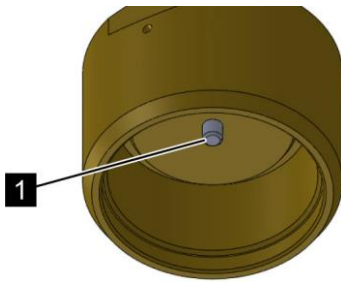

Fig. 161: Release pin
8. ➤ Check whether all release pins (Fig. 161/1) are in deactivated status. In deactivated status the release pin protrudes 3.9 ± 0.4 mm (0.15 ± 0.016 inches).